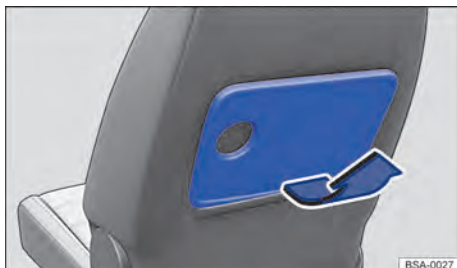

Fig. 141 Front seat: setting up the folding table.
1. To set up the folding table, press the release button on the lower edge of the table and pull upwards in the direction of the arrow → Fig. 141 until it clicks into place.